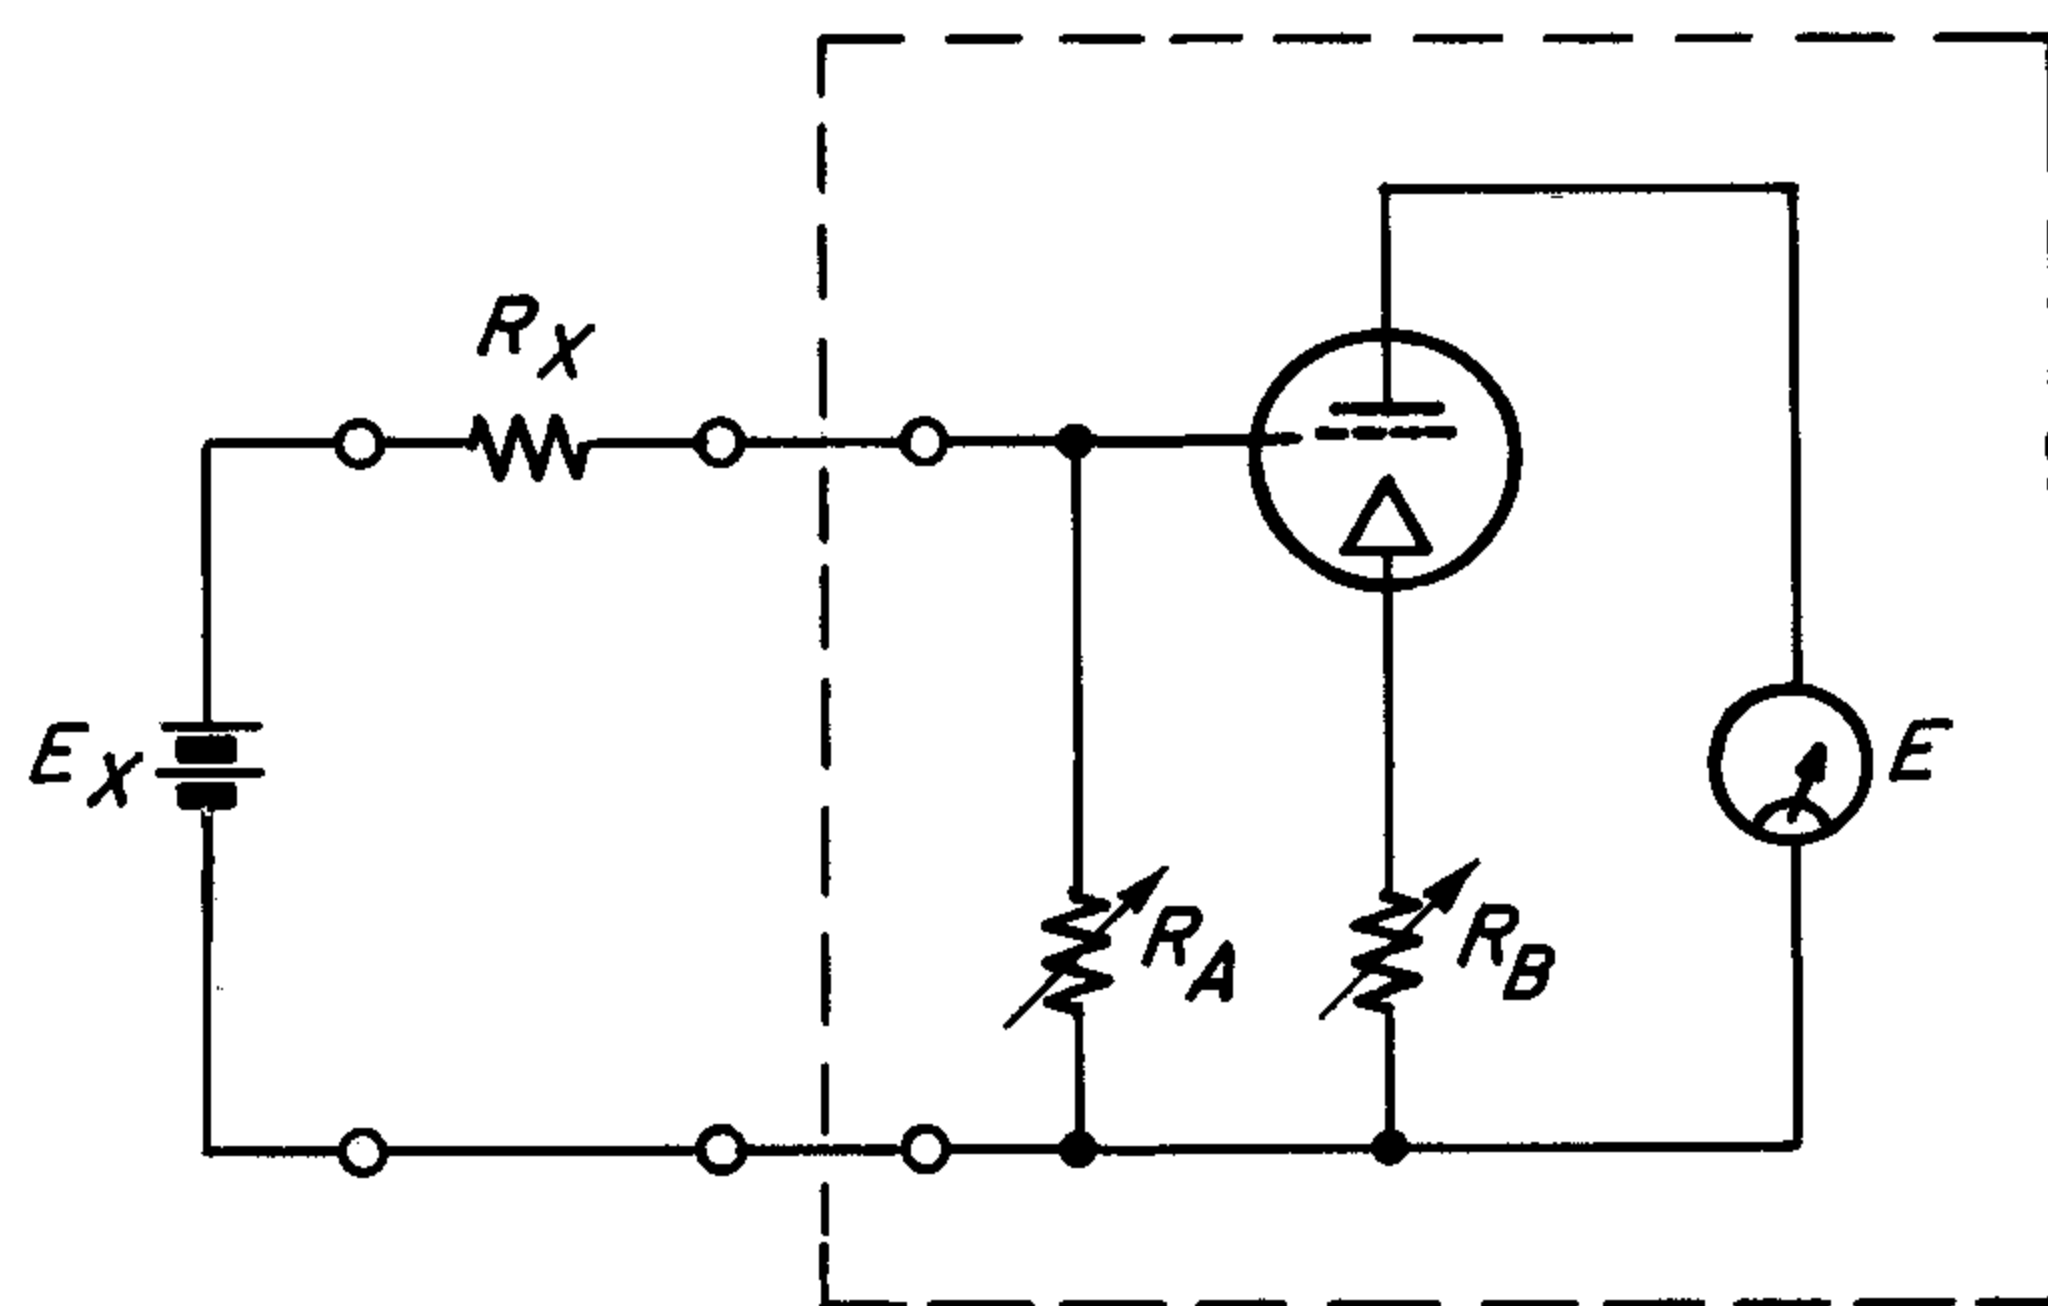

Figure 10. Connection for Measuring High Unknown Voltage.
4.8 HIGH-VOLTAGE MEASUREMENTS. Voltage measurements up to the kilovolt range can be made with the Type 1230-A Amplifier when an external resistance standard R_X is used. See Figure 10.